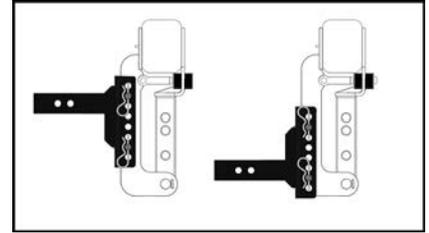

Figure 8: XR channel hitch can be used in the raised or dropped position.
•Insert the XR channel hitch into the hitch box and install 5/8" pin and clip that is provided. the XR channel hitch may be used in either the up or down position (see Figure 8).